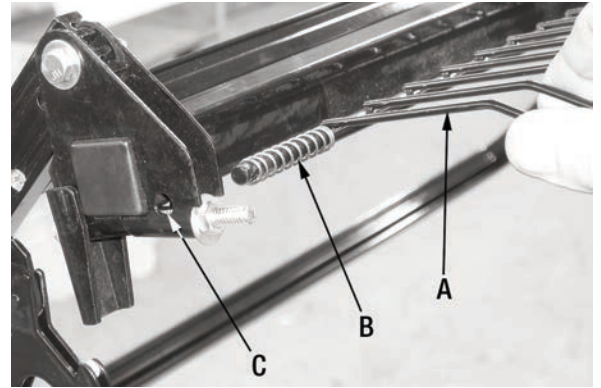

FIGURE 4
1. The meshing (A) Fig.4 gets installed to the rear of the safety guard assembly. Place a small spring (B) at the end of each end of the meshing.
3. Insert one end of the meshing (with spring installed) into the mounting hole (C) Fig.4 at each end of the safety guard assembly. Repeat for the other end of the meshing.